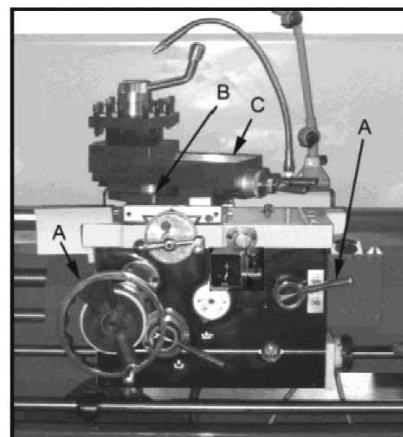

Fig. 18
4. Set Selector lever (D, Fig.18) to correct position (neutral).
5. Engage the half nut lever (A, Fig.18).
**Compound Slide.** The compound slide (C, Fig.18) is located on top of the cross slide and can be rotated 360°. There are calibrations in degrees (B, Fig.18) below the rest to assist in placement of the compound to the desired angle.